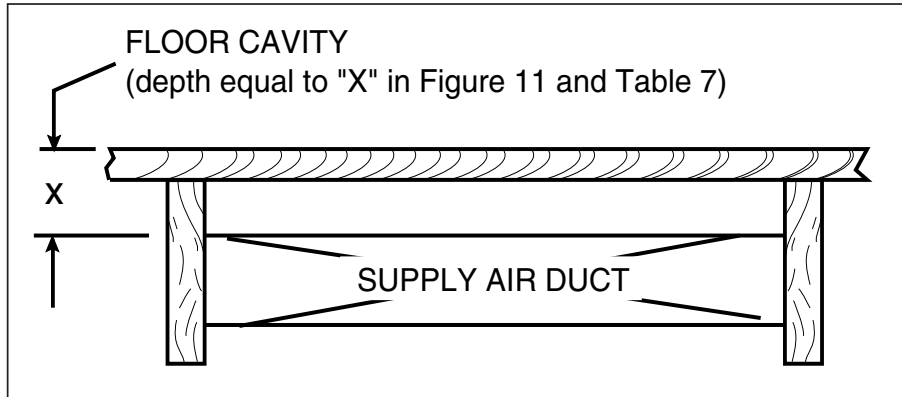

Figure 9.
- a. Determine depth of floor cavity from surface of floor to top of supply air duct (See Figure 9).